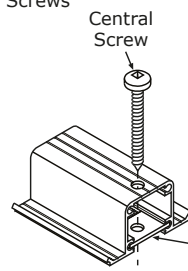

FIG. 4
- Where two posts are used for a Cantilevered Corner Joint (see Page Page 191, see Fig. 4), the Inner Top Rails are joined by riveting a small aluminium gusset such as a DNS90 to the top of both Inner Top Rails meeting at that corner.